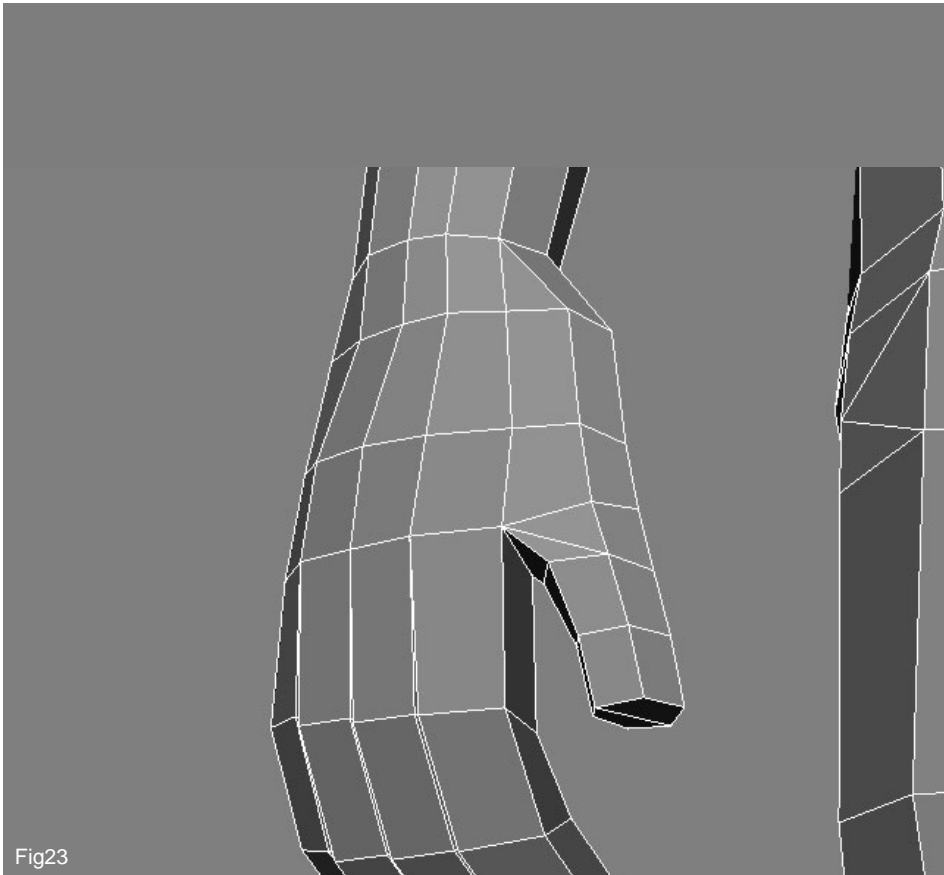

Fig23
23. Now you can complete the extrusion of the thumb, as shown in Fig 23.